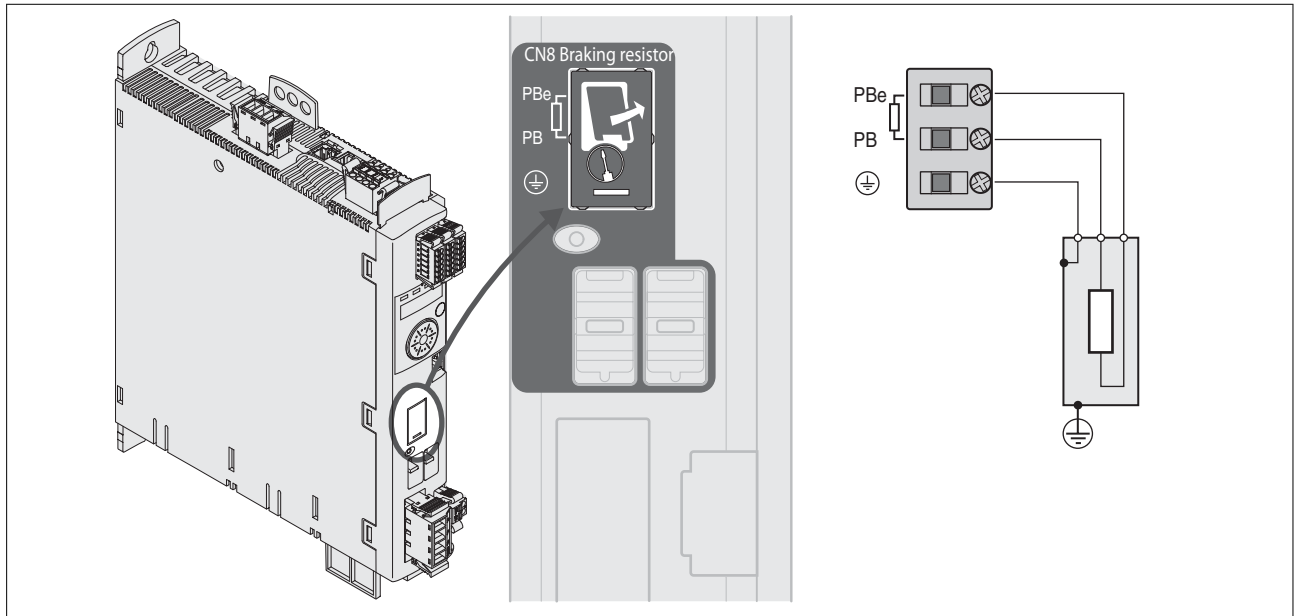

Figure 23: Wiring diagram external braking resistor
- ▶ Ground the ground connection (PE) of the braking resistor.
- ▶ Connect the external braking resistor to the device, see Figure 23. Note the tightening torque specified for the terminal screws.